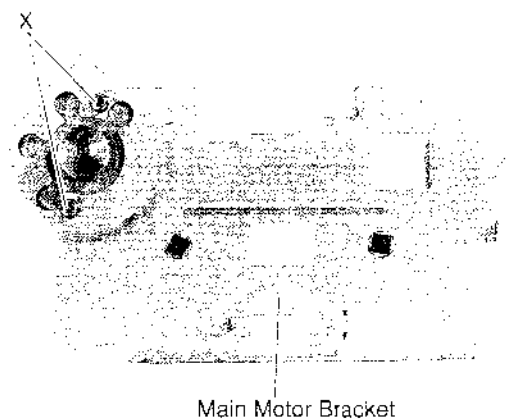

Figure 12
- (2) Remove two screws marked "x" as shown in Figure 12.